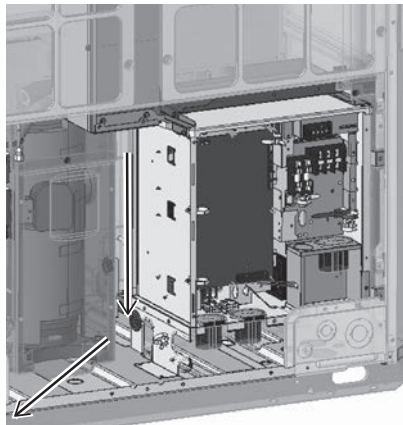

Figure 4
- (5) Remove the transformer box. (Figure 4)